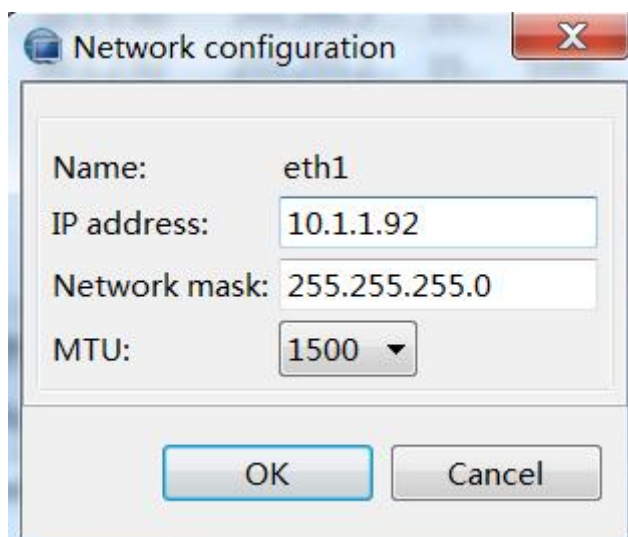

Figure 10-5 Setting the IP address and mask
(3) On the pop-up dialogue box, input the correct IP address and mask of the port, then click the **[OK]** button, as shown in the Figure 10-5:
(4) Repeat steps (2)~(3) to set the IP addresses for all the ports and then review them from **[Server Maintenance > Network Configuration]**.